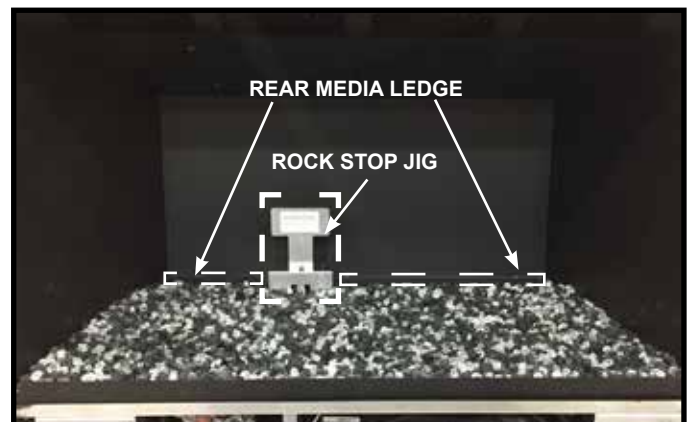

Figure 9.6 Glass Media Installed
**CAUTION:** Do not install media behind rear media ledge. This may cause sooting. See Figure 9.6.